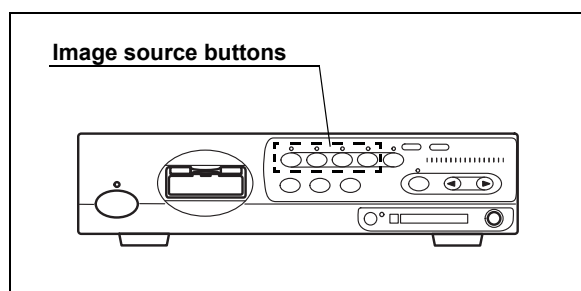

Figure 5.1
1. The Image source buttons select the images to be displayed on the monitor (see Figure 5.1). The indicator above the active button lights up.